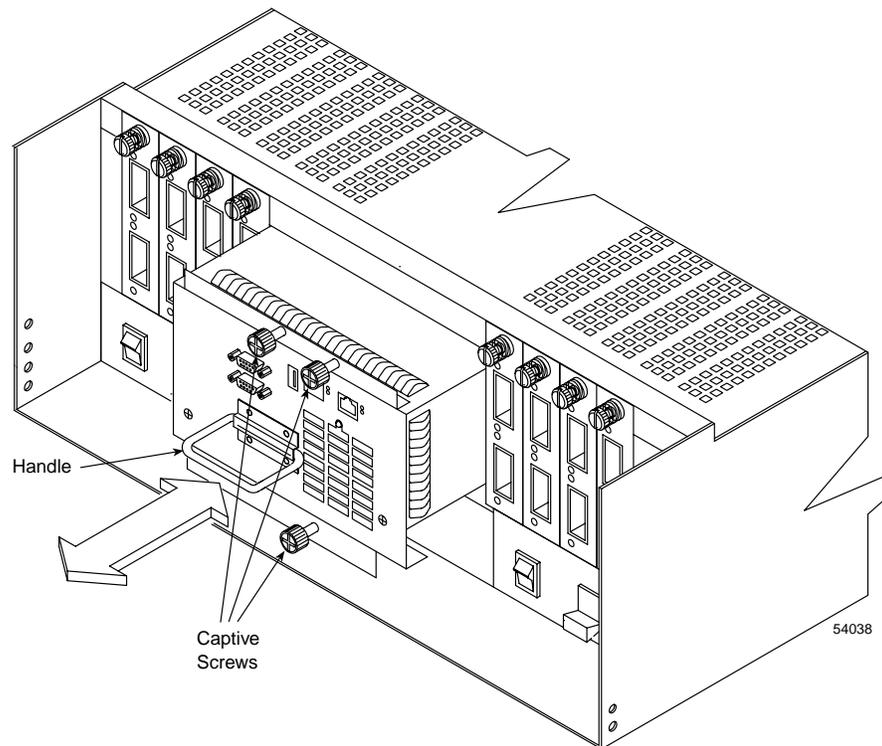

Figure 4-9 Removing and Installing a Fan/Communications Canister
4. Remove the failed fan/communications canister from the controller enclosure (Figure 4-9).